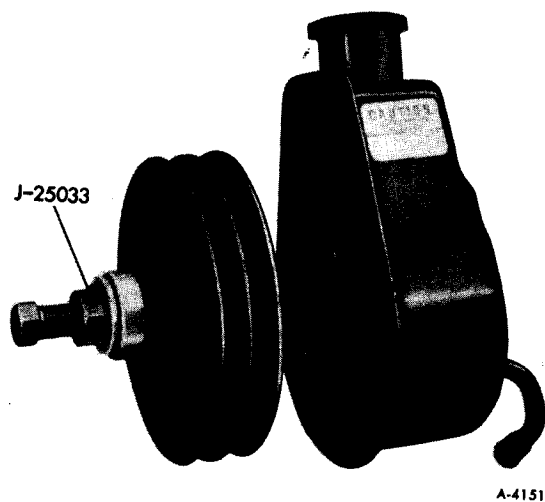

Figure 4—Pulley Installation—Special Tool J-25033
**CAUTION:** Do not hammer pulley on, as this will damage internal pump parts (figure 4).